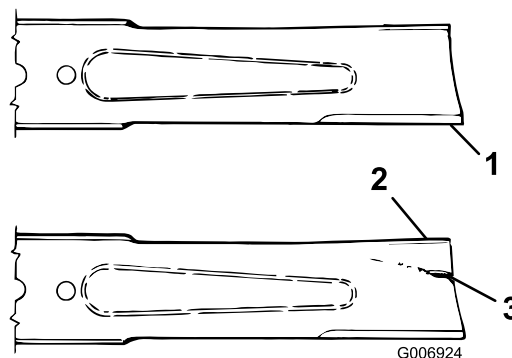

Figure 63
2. Examine the cutting ends of the blade carefully, especially where the flat and curved parts of the blade meet (Figure 63). Since sand and abrasive material can wear away the metal that connects the flat and curved parts of the blade, check the blade before using the
machine. If wear is noticed (Figure 63), replace the blade; refer to Removing the Cutter Blade.
If the blade is allowed to wear, a slot will form between the sail and flat part of the blade (Figure 63). Eventually a piece of the blade may break off and be thrown from under the housing, possibly resulting in serious injury to yourself or bystanders.